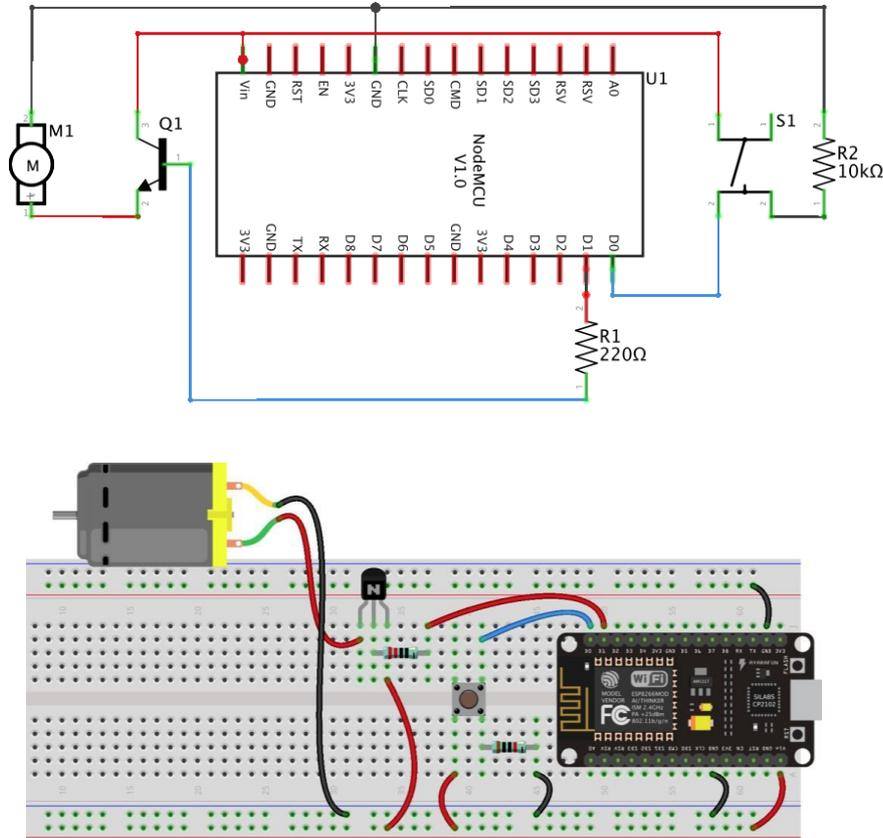

Figure B1
4. Now change the digital output (LED) to a DC Motor interface to a Transistor 2N2222. The circuit is shown in **Figure B1**.